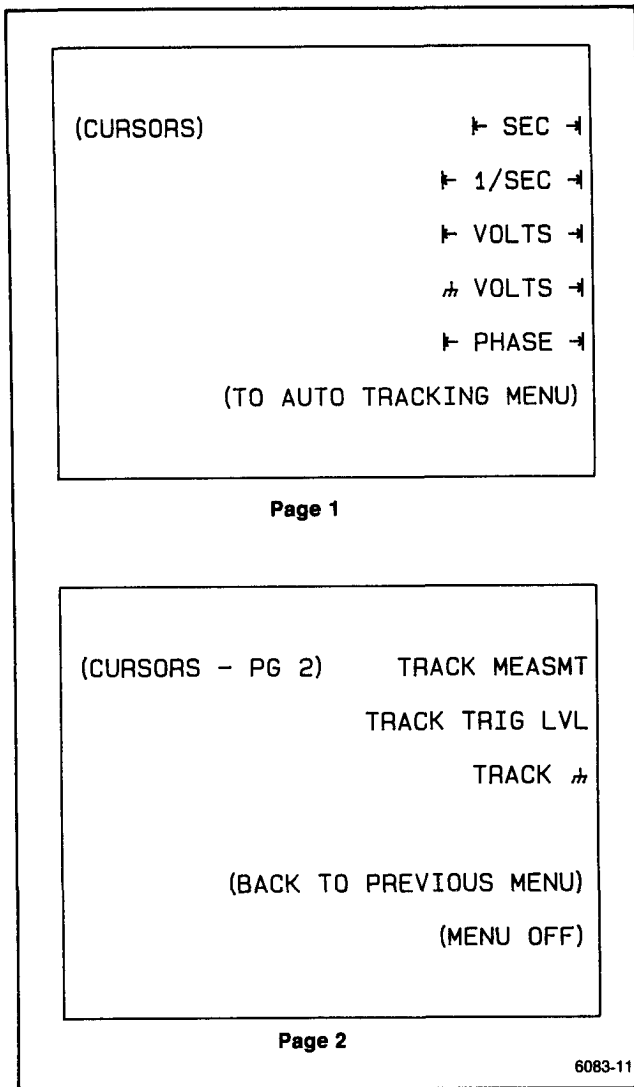

Figure 3-9. CURSOR Measurement Menus.
**CURSORS**—Calls up the Page 1 menus used to select a positionable-cursor measurement mode. Page 2 menus are used to enable the auto-tracking SmartCursors® that may be displayed (see Figure 3-9).